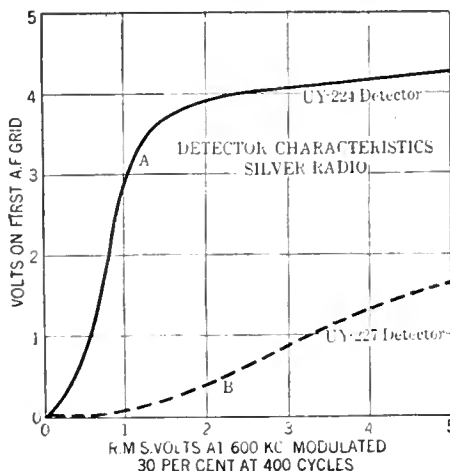

Fig. 6—The efficiency of a screen-grid detector as compared with that of a typical 227-type detector.
**I**N THE past the 227-type tube operated at a high plate voltage and with a highly negative bias (so-called "power detector") has been considered the most generally satisfactory detector available. In this set, a new detector is used—a screen-grid power detector of such high efficiency that it is probable that within a short time it will replace all other types of detectors. Its conversion efficiency (r.f. signal modulated 30 per cent. at 400 cycles to a.f. signal at first audio grid) is illustrated clearly in Fig. 6 at A as compared against a typical 227-type power detector at B. A comparison of the respective slopes indicates the great superiority of the screen-grid detector, which was operated with a 60,000-ohm bias resistor, a total B potential of 170 volts, and a plate resistor of about 300,000 ohms. A particular point to be noted is the flattening off of the curve at increasing signal voltages. This occurs at such a point as to prevent serious overloading of the audio amplifier, for it has been found that such "distortion" as exists is of a volume limiting nature, and is far less annoying than overloading of the power audio stage—the detector characteristic, therefore, serves as a means